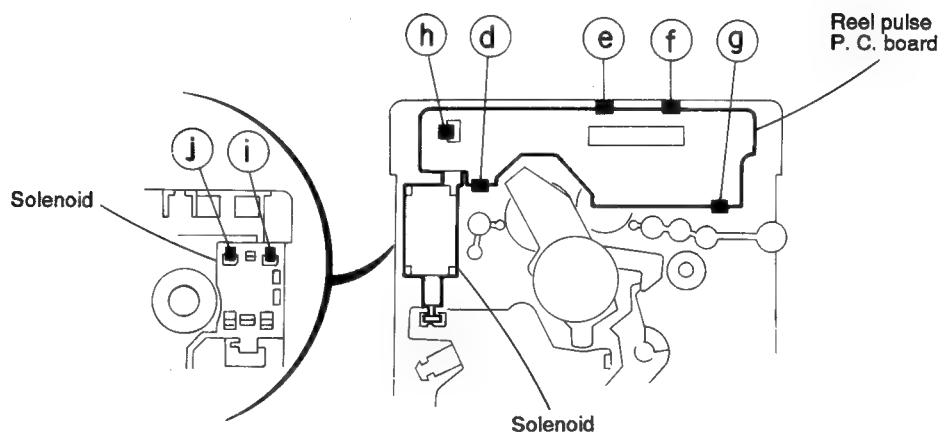

Fig. 5-27
■ Removing the Reel Pulse P.C. Board and Solenoid (See Fig. 5-27)
1. Remove the five pawls (④, ⑤, ⑥ and ⑦, ⑧) retaining the reel pulse P.C. board.
2. From the surface of the reel pulse P.C. board parts, remove the two pawls ⑨ and ⑩ retaining the solenoid.